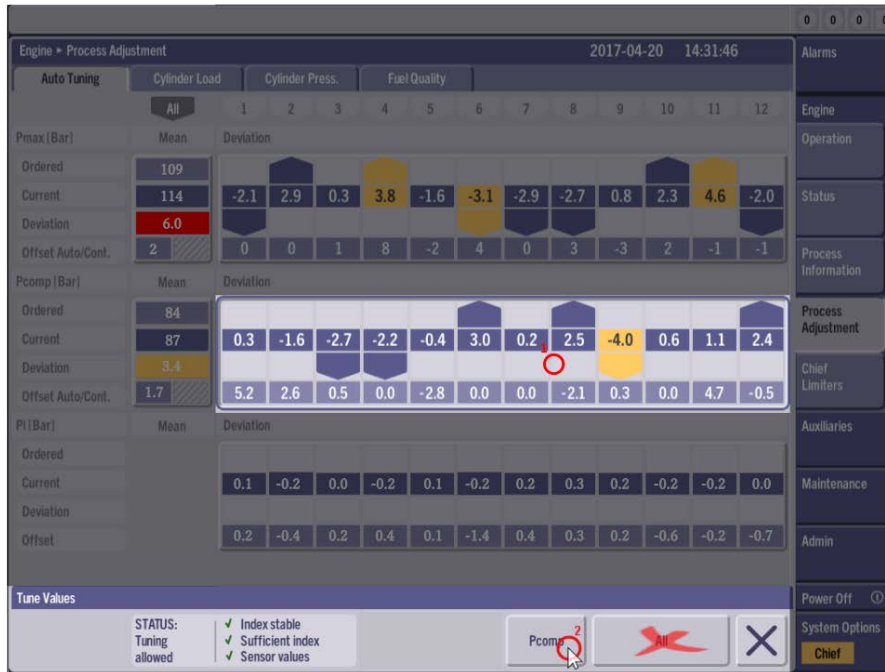

Figure 14 - Balancing of P_{comp}
3. Balancing of P_{comp} (Figure 14)